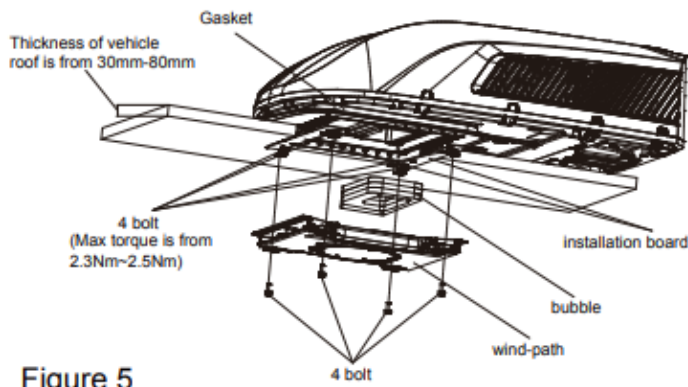

Figure 5
3. Then carry the outdoor unit to the vehicle's top and align with the openings on the vehicle's top. Use 2 sets of mounting plate assembly and 4 screw bolts to mount the outdoor unit. As for installing the mounting plate sub-assy, these 4 long bolts' holes should be align with the 4 holes on the adaptor respectively at first and then the upper planes on the bottom edge of two mounting plates must be overlapped with the bottom surface of vehicle roof. (See Figure 5).
6. Install the foam assembly on the air duct assembly. Use 4 screw bolts to fix the air duct assembly onto the mounting plate. After connecting the outdoor unit with indoor unit, check whether the foam assembly has come loose (See Figure 5).